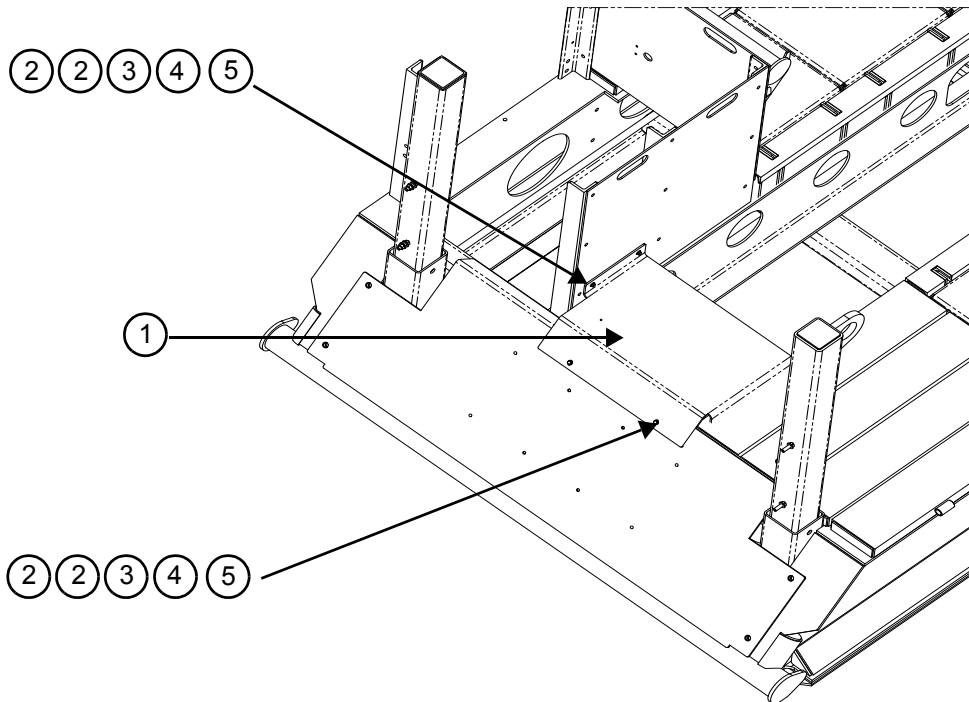

Figure 2: Top View (Reference Drawings AY51075, AY51076)
4. Install the carrier gap guard with the included hardware and adhesive (Figure 2).